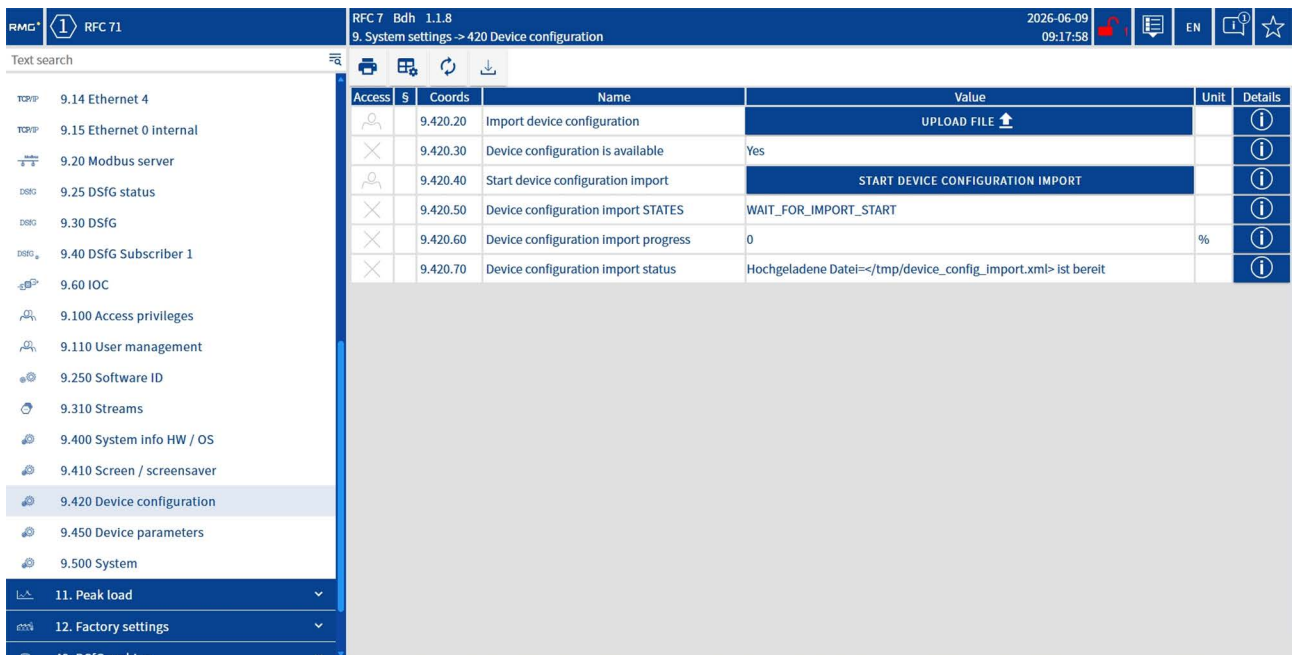

Fig. 120: Menu page 9.420 Device configuration after the XML file has been uploaded
- ➔ The selected file is uploaded. This can take several minutes. Once uploading is complete, additional coordinates are added to the menu page 9.420 Device configuration (see fig. 120).